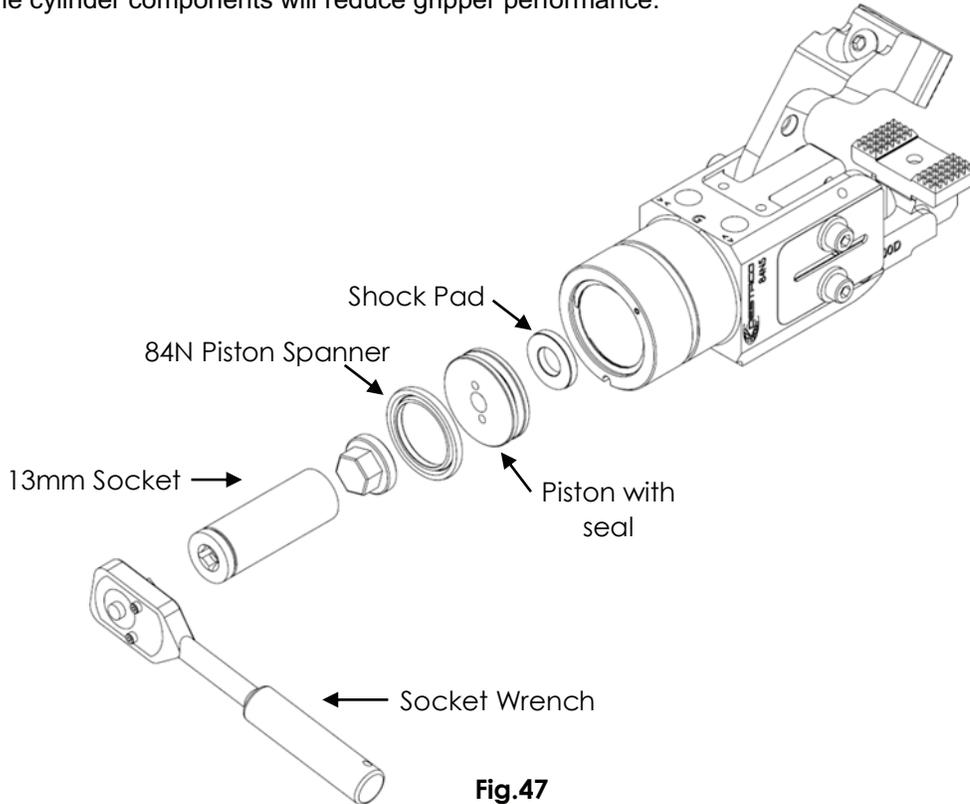

Fig.47
21. Insert the piston with replacement seal & replacement shock pad in the cylinder body. Attach piston to the piston rod using the 84N Piston Spanner and 13mm socket. Rotate piston in the clockwise direction and tighten it to 6Nm (see Fig.47)
2. Push the $\varnothing 3$ rod/pin outward so that the piston moves to de-clamp condition and the gripper releases the blank (see Fig.47).